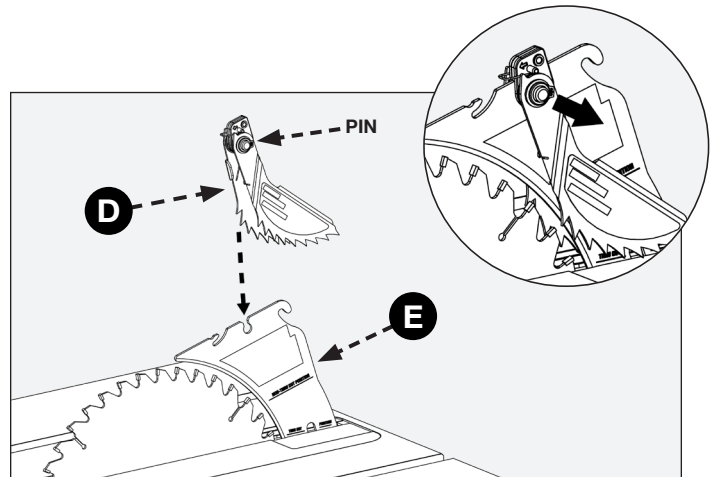

FIGURE 14
Riving knife (E) must be in the Through Cut position prior to installation of the anti-kickback pawls (D) and blade guard (F) (Fig. 14 and 15).
Insert the pawl assembly (D) into the middle slot on the riving knife (E) as shown in (Fig. 14) while pressing the spring-loaded pin on the right side of the pawl assembly.
Once inserted, release the spring-loaded pin so that it pops back in to place (Fig. 14). Ensure that it is locked in place.